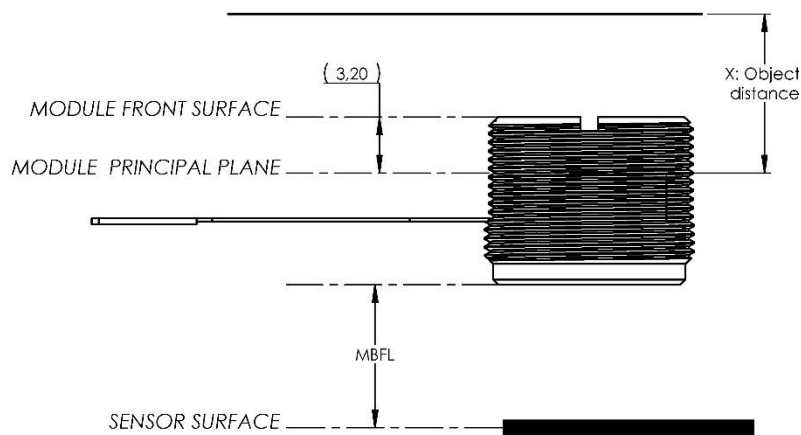

Figure 2: Definition of x and MBFL
- (1) For more information on the behavior of the A-25H0 lens with voltage, please refer to the A-25H TEDS.
- (2) For a sensor size of 6.1 mm diagonal (1/3").
- (3) For shorter focusing distances, see "Module Setting Recommendations".
- (4) Refer to figure 2 on page 5.
- (5) For 50% transmission. Typical performance of IR cut filter is given below: